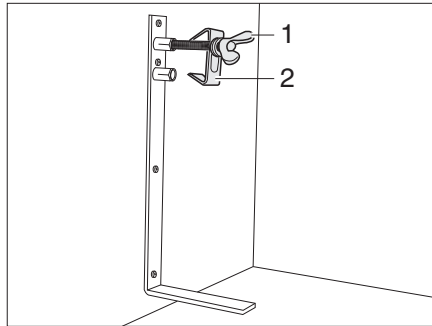

Fig. 164 Spare wheel support
- Loosen the screw (Fig. 164,1) and remove the centring device (Fig. 164,2).